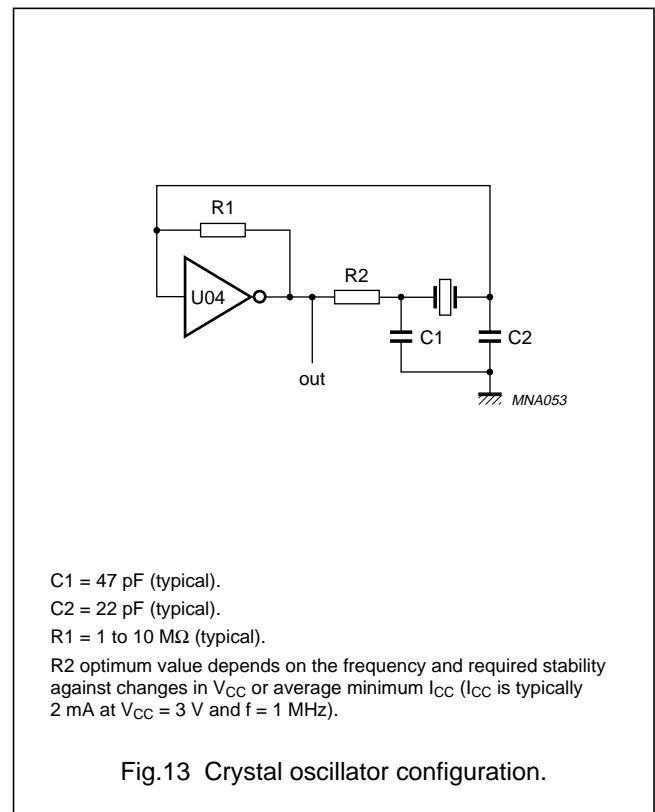

Fig.13 Crystal oscillator configuration.
- In crystal oscillator design (see Fig.13).